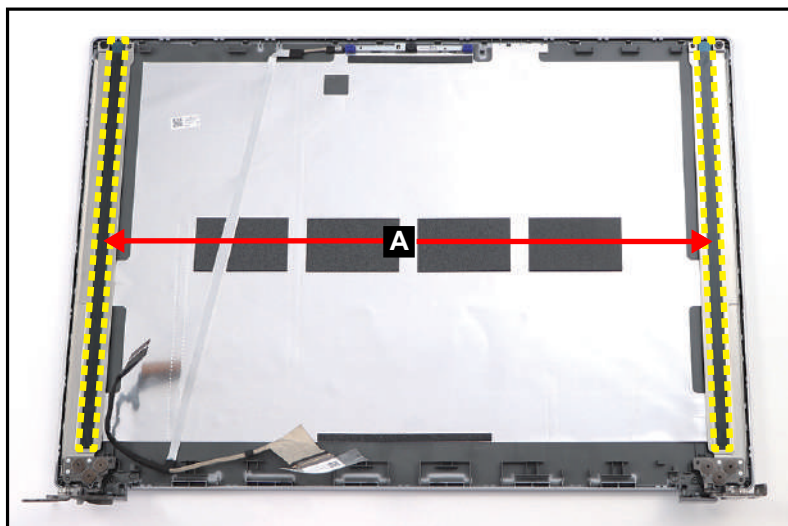

Figure 3-95. Replacing the LCD Panel
1. Adhere the double-sided adhesive mounting tapes (A) on both sides of the LCD hinges and press each tape for about 30 seconds. Then peel off the protective film from the double-sided adhesive mounting tapes (Figure 3-95).
Before applying the new double-sided adhesive mounting tapes, make sure to clean the surface properly with the rubbing alcohol. Then attach the adhesive mounting tapes onto the designated slots as shown in Figure 3-95.